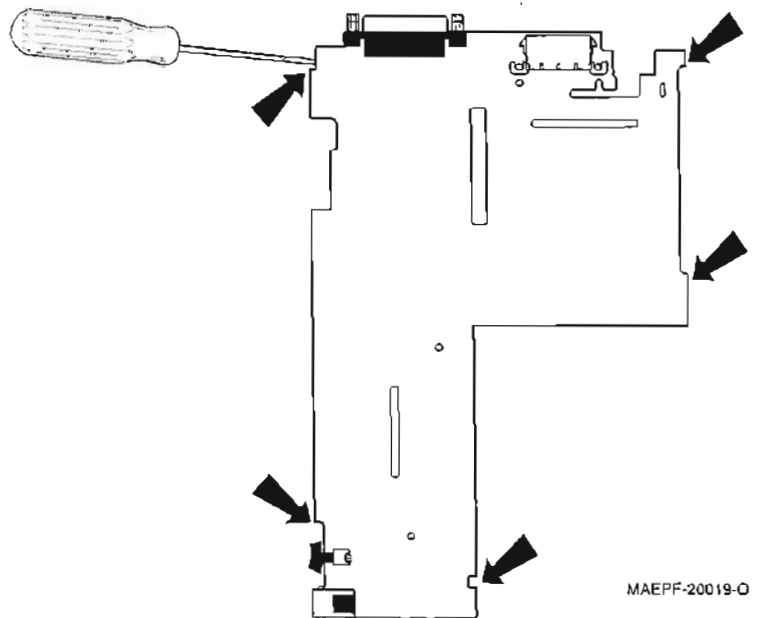

Figure 5. Top View of PCB
- (k) Referring to Figure 5, and using the small screwdriver,unsnap the five snap catches holding the main PCB. The board should be pulled directly upwards to allow the microphone connector to slide from its mating grooves. The main PCB is still attached to the bottom housing by the ribbon cable connected to the volume pot board. The main board can be flipped forward to access the underside without removing the volume pot board.